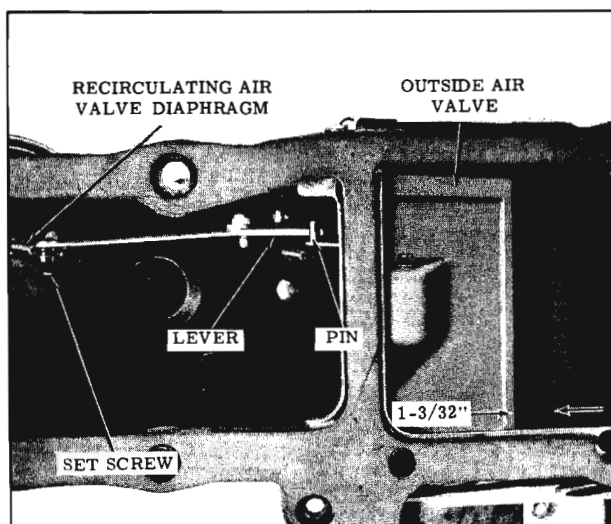

Fig. 15-40 Outside Air Valve Adjustment
**Outside Air Valve (Fig. 15-40)**